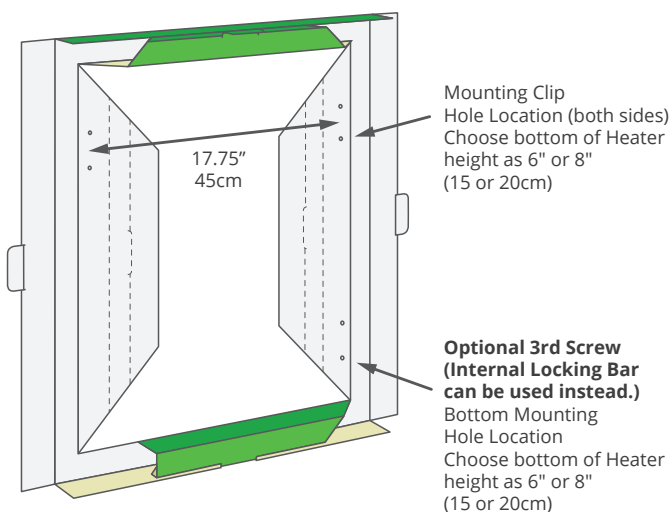

Fig. 1
- 1 Unwrap and flatten the sides of the packaging insert frame (mounting template) and stand the template on the floor. The sides of the template have pre-punched holes to mark the heater mounting height for either 6" or 8" (15 or 20cm) from the bottom of the heater to the floor. Choose either mounting height, and mark three hole locations on the wall. (see Fig. 1). The top two hole locations are for the mounting clips and the bottom location is for a third mounting screw hidden inside the bottom access door as described in step 5 below.